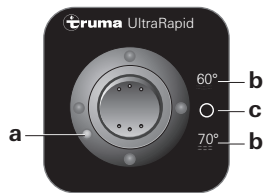

Fig. 3
- Switch off the water heater to position (Fig. 3 - c).